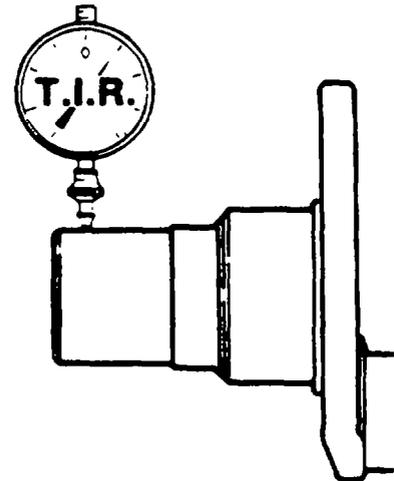

Figure 31 — Crankshaft Nose — Total Indicated Runout
- aw. Move the dial indicator to the front of the crankshaft with the plunger approximately six mm from the front face of the crankshaft (see Fig. 31). Zero the dial indicator, then rotate the crankshaft one complete revolution, read the maximum movement of the dial indicator to obtain the nose section T.I.R. Where the nose section T.I.R. exceeds 0.05 mm (0.002 in.) the crankshaft is not serviceable in this condition, it may be possible to recondition the crankshaft by hard chrome plating and grinding to specification (refer to Table 7).